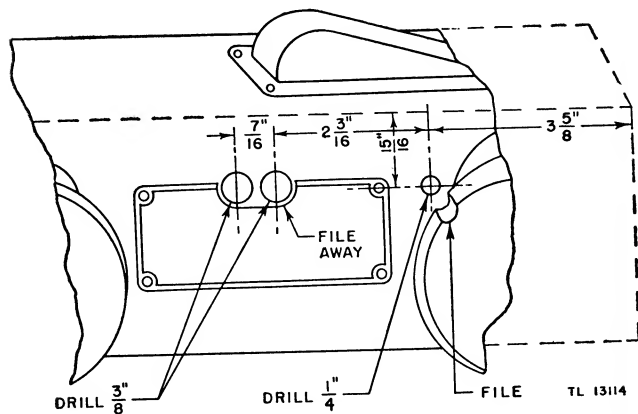

Figure 80. Location of holes for i-f adjustments.
h. Remove the microphone cover. Locate, center-punch, and drill a $\frac{1}{4}$ -inch hole as shown in figures 80 and 81.
j. Remove the nameplate from the side of the housing. Locate, center-punch, and drill two holes as shown in figures 80 and 81, using a $\frac{3}{16}$ -inch drill. Enlarge the two holes, using a $\frac{3}{8}$ -inch drill.
k. Cut the nameplate to clear the two holes as shown in figures 80 and 81.